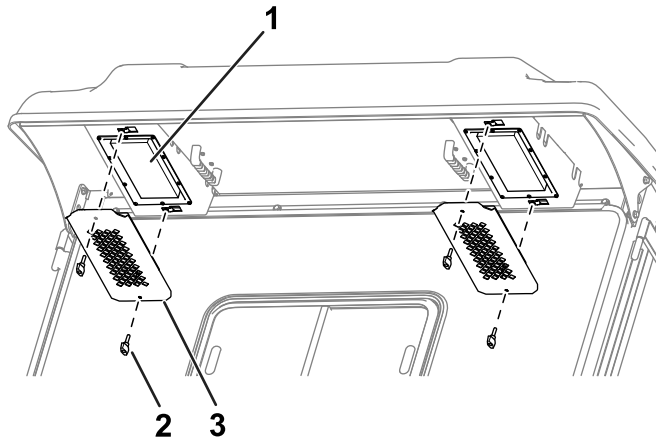

Figure 118
1. Remove the knobs and grates from the cab rear overhang (Figure 118).
4. Use the knobs and grates to install the filters into the cab (Figure 118).